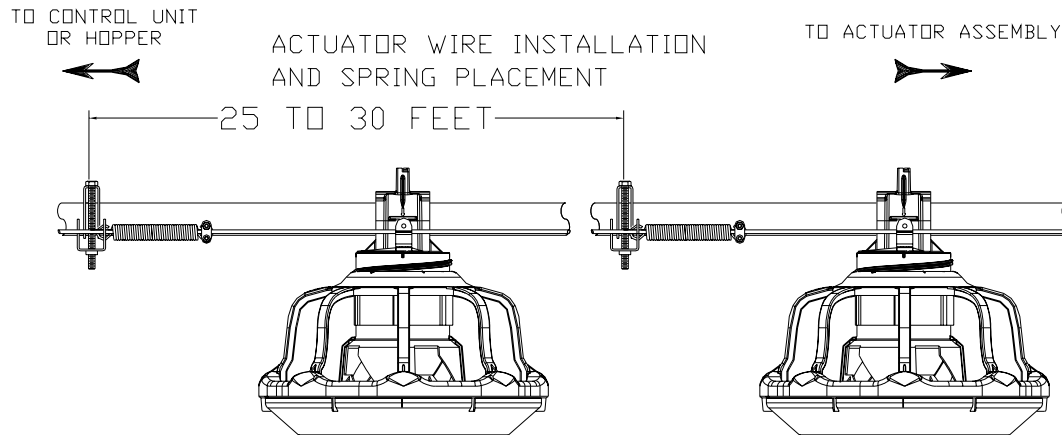

**Figure 55. Spring Bracket Assembly**
4. Assemble the spring to the spring bracket by sliding the loop of the spring up through the third hole in the bracket, **see figure 55**.